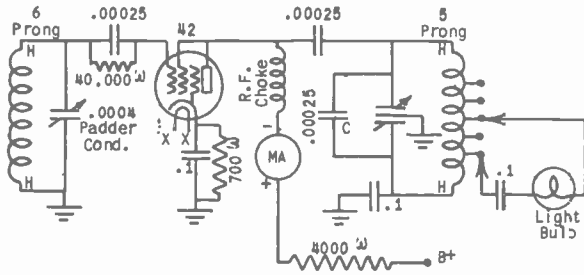

Fig. 5 Schematic diagram of a shunt fed, tuned-grid, tuned-plate oscillator using a type 42 tube as a triode.
**WIRING THE EXPERIMENT.** In all previous experiments, you have used the solder lug terminal on the left hand side of each of the stator sections on your two-gang tuning condenser. Upon examination, you will find that there are solder lug terminals on both sides of the stator sections of the two-gang tuning condenser. Take one of your .00025 mfd. mica condensers and connect one pigtail lead to the right hand terminal on the back stator section of your two-gang condenser; solder the connection. The other pigtail lead of this condenser goes to the solder lug on the right hand of the front section of your two-gang tuning condenser. Solder this connection. You now have a .00025 mfd. mica condenser connected across the two stator sections of the two gang tuning condenser as shown at C in Fig. 5. This procedure is necessary to increase the maximum capacity of this tuning condenser.
Connect one pigtail end of a 4,000 ohm resistor to the positive terminal on the milliammeter. The other pigtail end of this resistor is to be connected to the B+ terminal lug on the terminal strip mounted under the bolt which holds the right hand end of your filter choke in place. Now, if you have very carefully followed directions, your experiment will be wired up as shown in Fig. 5.